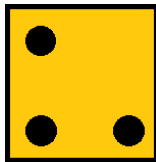

Figure 7.12.4 End Point Shapes
2. Spot the solution two more times so that the spots form a right triangle; more specifically, the spots will act as the endpoints (see Figure 7.12.4). Each spot should be approximately 1 mm (in distance) from the original point; try to avoid having the samples touch one another.